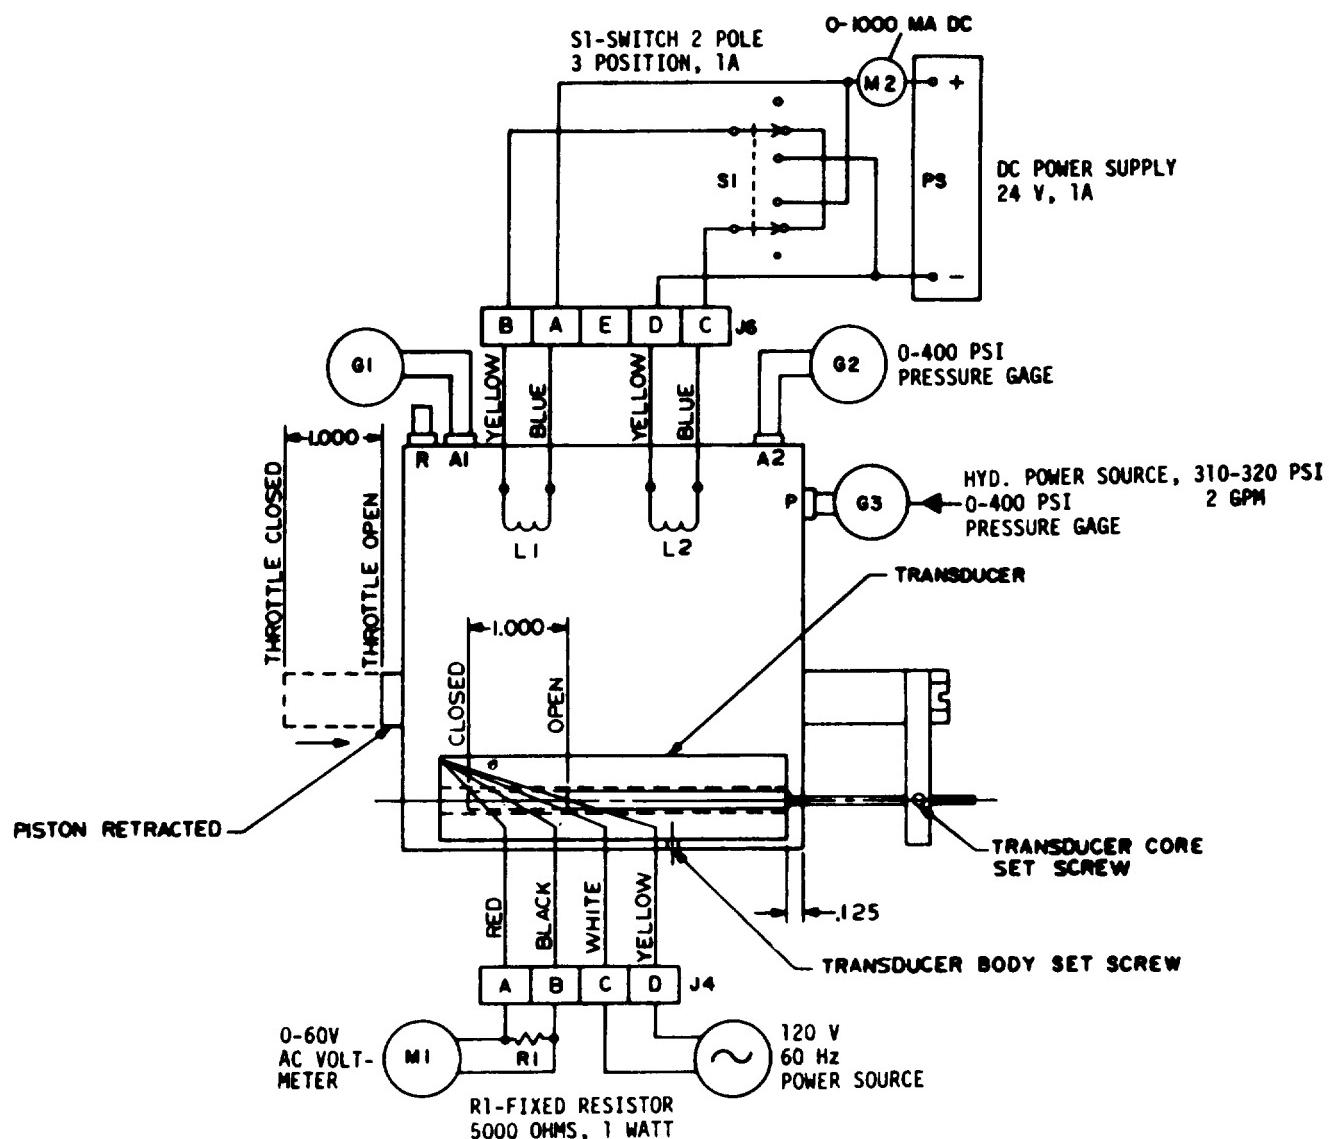

Figure 3-40. Hydraulic Actuator Tests, Schematic Diagram
(1) Actuator Valve and Piston Test.
- (a) See figure 3-40 to perform the valve and piston test.
- (e) With hydraulic power but no electric power applied, adjust the valve with Allen set screw to yield  $200 \text{ psi} \pm 10 \text{ psi}$  at A1 port (gage G1) and  $150 \text{ psi} \pm 10 \text{ psi}$  at A2 port (gage G2). (See figure 3-40).
- (h) Set switch S1 to connect power (PS) to coil L2 and apply  $700 \text{ ma} \pm 40 \text{ ma}$ . Pressure at A1 port (gage G1) shall be 310 to 400 psi. pressure at A2 port (gage G2) shall be 0 to 20 psi.
- (i) Set switch S1 to connect power (PS) to coil L1 and apply  $700 \text{ ma} \pm 40 \text{ ma}$ . Pressure at A1 port (gage G1) shall be 0 to 40 psi and pressure at A2 port (gage G2) shall be 310 to 400 psi.
(2) Throttle Position Transducer Test.
- (a) With voltmeter (M1), resistor (R1) and  $120 \pm 1\%$ , 60 Hz power source connected as shown in figure 3-40, move piston to fully open throttle position.